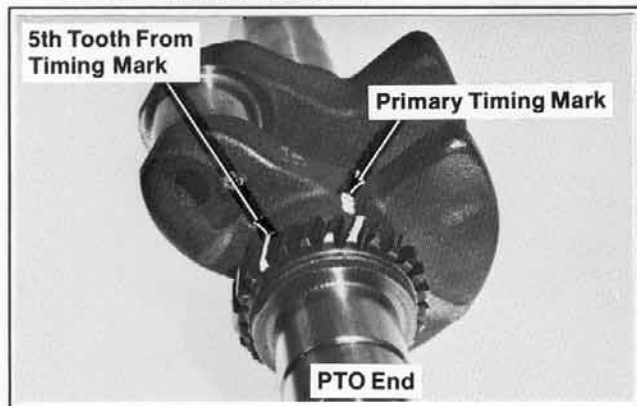

Figure 1. Marking Tooth On Crankshaft Gear.
**Crankshaft** - Locate the primary timing mark on crankshaft. While looking at the PTO end of crankshaft, start with the tooth directly below timing mark and count **five (5)** teeth in a **counterclockwise** direction. Mark the fifth tooth. Refer to Figure 1.